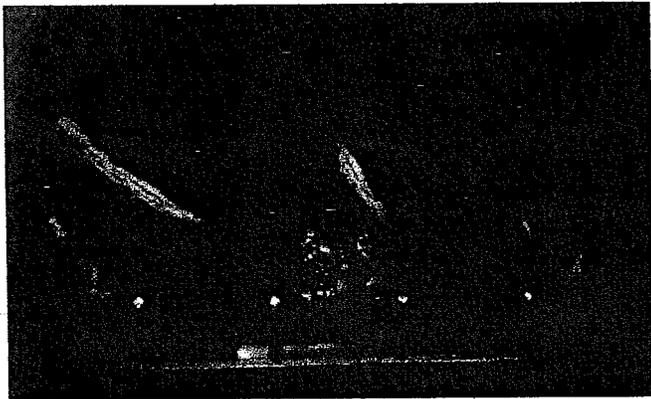

Figure 8.11 Place Top Log in Center- Carolina 42
- Place the top log on the indentations of the right front log and the back log as shown in Figure 8.11 for Carolina-42.